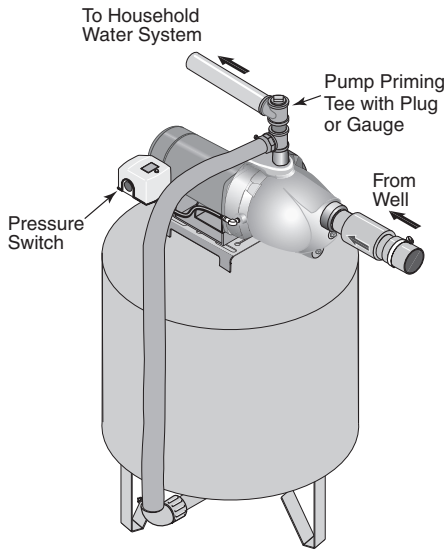

Figure 4 - Pre-charged Tank Connections
Pre-Charge Tank Connection (Figure 4)
1. Install two tees in the pump discharge port (see Figure 4). The pipe size must be at least as large as the discharge port.